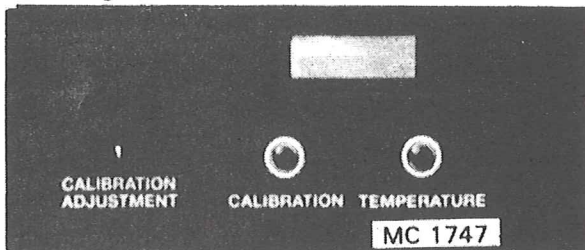

Figure 39
- The Digital Display Meter shows grain moisture constantly and should read approximately 6% when Sensor is in open air (no grain passing over Sensor), see Figure 39.
- Push Grain Temperature Button and the display meter will show Temperature of Grain on the sensor, see Figure 39.
- Push Calibration Button and the display meter will show the amount added to or subtracted from the displayed moisture (-9.9 to +9.9), see Figure 39.